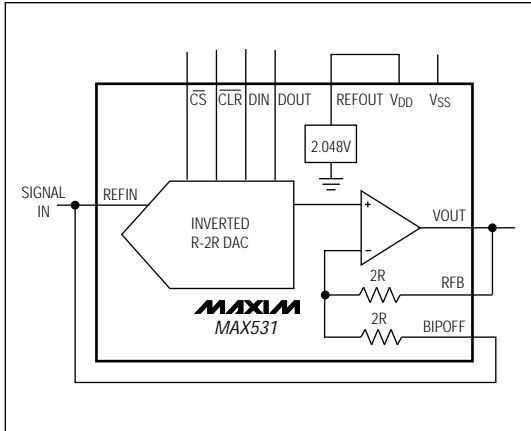

Figure 9. MAX531 Connected as Four-Quadrant Multiplier. The unused REFOUT is connected to V_{DD} .
The MAX531 can be used as a four-quadrant multiplier by connecting BIPOFF to REFOUT and RFB to VOUT, using (1) an offset binary digital code, (2) bipolar power supplies, using dual power supplies, and (3) a bipolar analog input at REFOUT within the range $V_{SS} + 2V$ to $V_{DD} - 2V$, as shown in Figure 9.